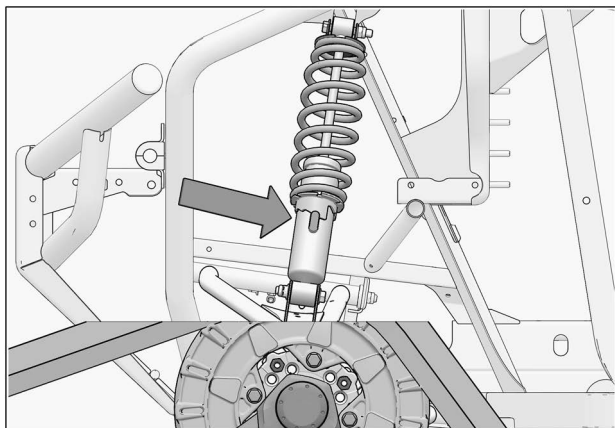

Fig. 39
1. Verify the suspension settings. If the shock absorbers are adjustable, adjust them to the stiffest setting to allow for maximum clearance between the System and the vehicle's fenders. See Fig. 39